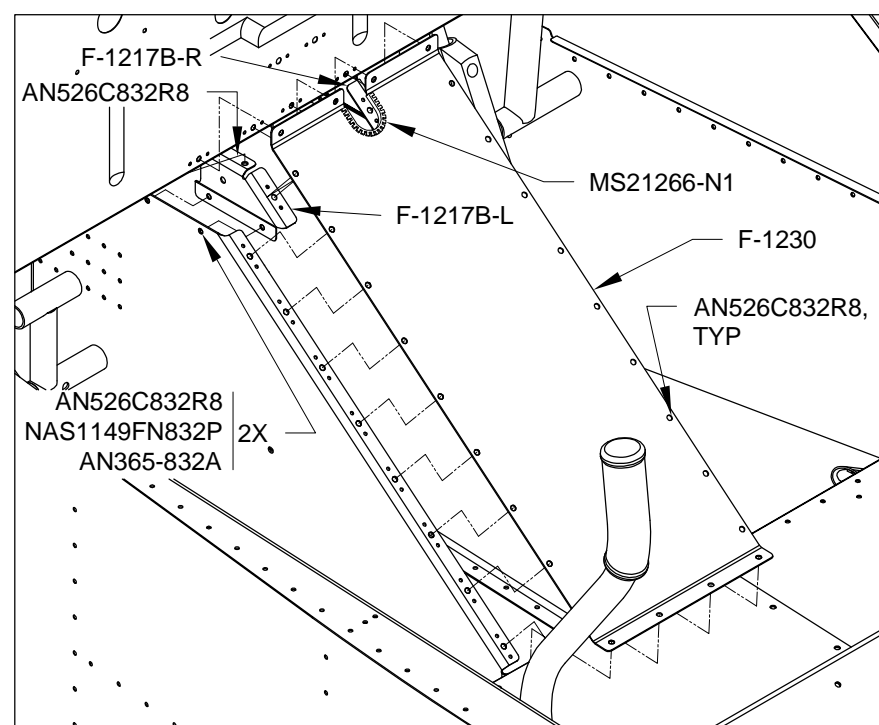

FIGURE 3: TUNNEL COVER INSTALLATION
Step 5: Install the F-1217B-L and -R Rudder Pedal Access Covers using the hardware called out in Figure 3.
Step 6: Trim the MS21266-1N Grommet to 2 13/32 inches and install on the F-1230 Tunnel Cover as shown in Figure 3.
Step 7: Install the F-1230 Tunnel Cover using the hardware called out in Figure 3.